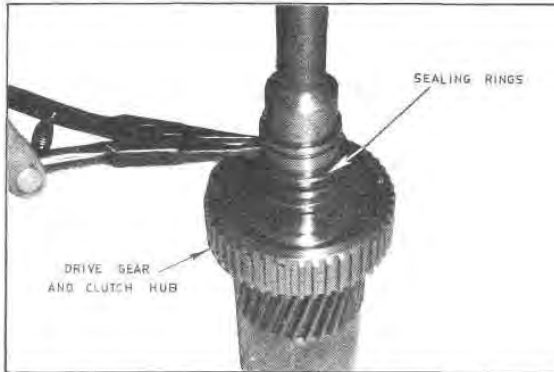

Fig. G67 — Installing the Forward Clutch Sealing Rings on the Drive Gear
30. Install two (2) forward clutch sealing rings in the grooves provided in the drive gear (Figure G67). After installing the rings, hook the ends and turn the rings to ensure their freedom of rotation.